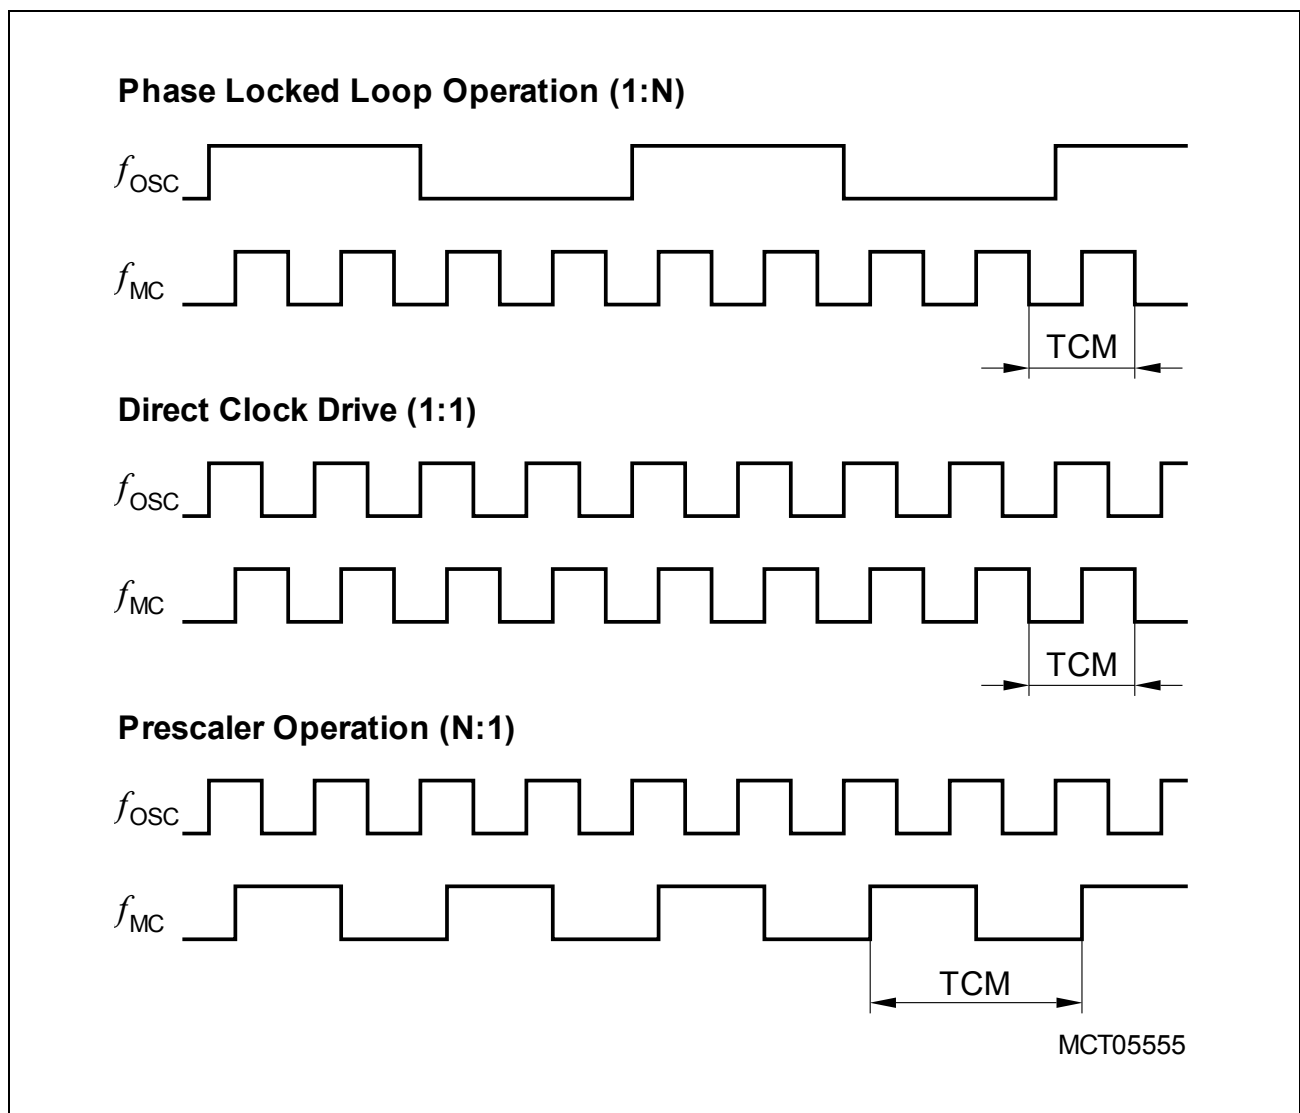

Figure 15 Generation Mechanisms for the Master Clock
*Note: The example for PLL operation shown in **Figure 15** refers to a PLL factor of 1:4, the example for prescaler operation refers to a divider factor of 2:1.*